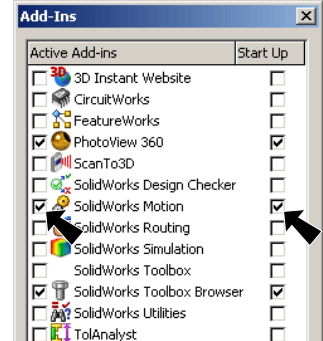

Fig. 1
- Step 3. Check **SolidWorks Motion** check box under **Active Add-Ins** and **Start-Up**, Fig. 1. Click OK.